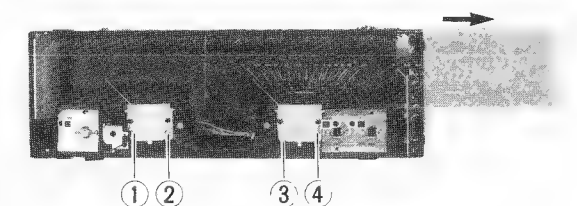

Fig. 5
2. Remove seven screws ① - ⑦ of the dial back panel.
4. Remove two screws ⑧ - ⑨ on the mask plate, and remove of the lamp house of right side.
5. Remove of the meter scale in this manner shown in Fig. 5.
6. Remove mounting screws ① - ④ of the power meter.